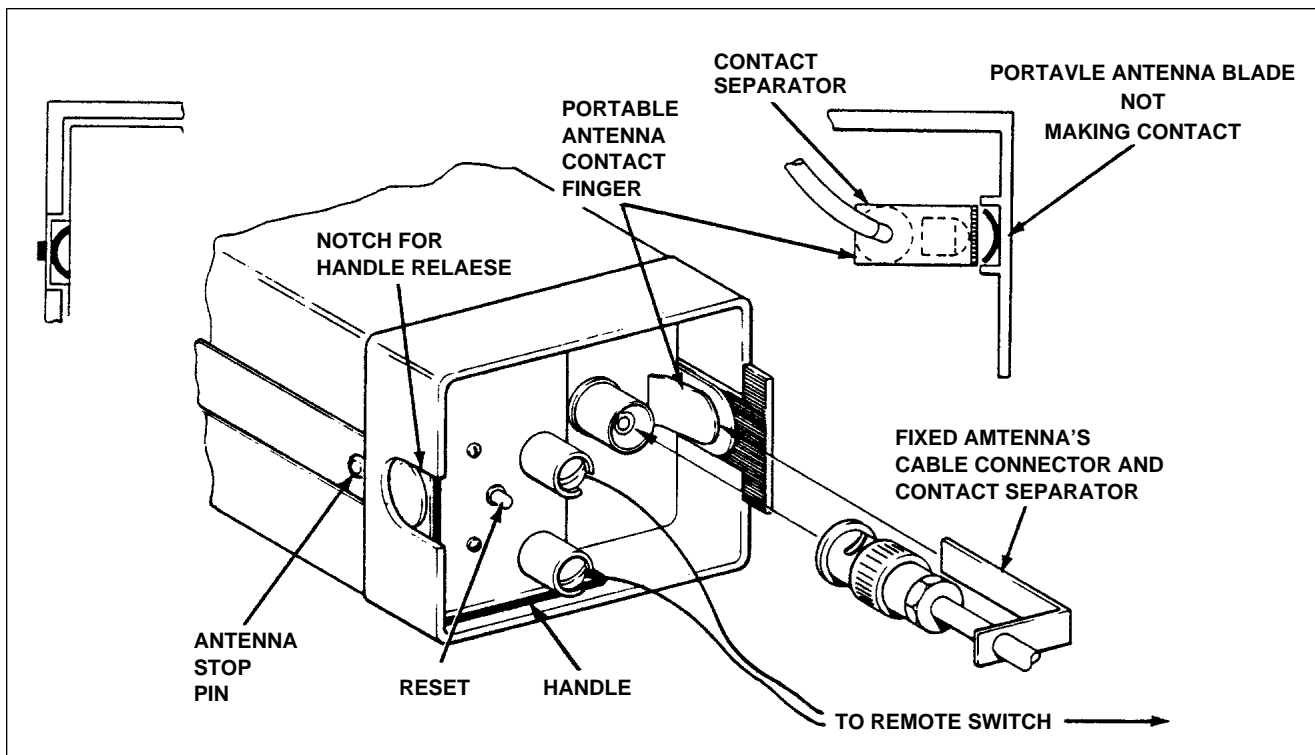

Figure 12-7. ELT Using Fixed Aircraft Antenna (Narco)
- m. Connect the antenna coaxial cable to the ELT and ensure that the contact separator is inserted between the antenna contact finger and portable antenna. (Refer to Figure 12-7.)